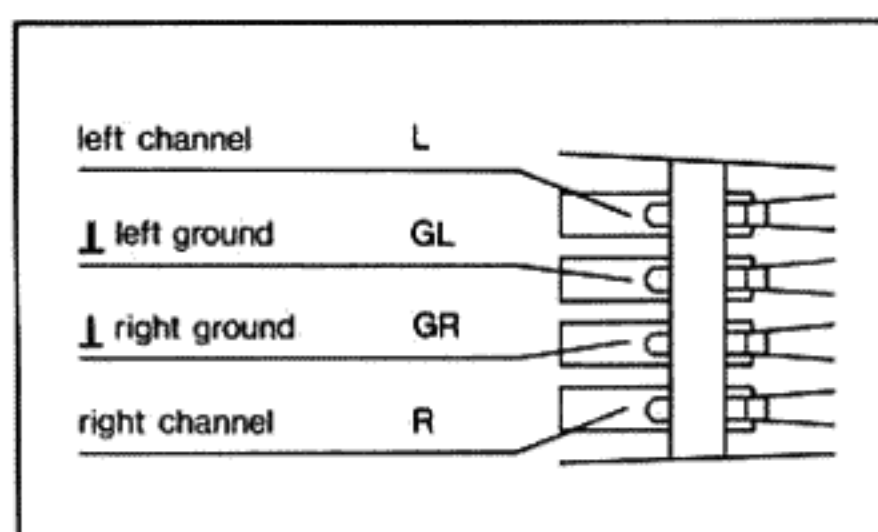

Fig. 13
3. The connection inputs on the cartridge holder and on the cartridge are color coded (Fig. 13). Connect the leads of the cartridge holder to the correspondingly coded connection pins of the cartridge.